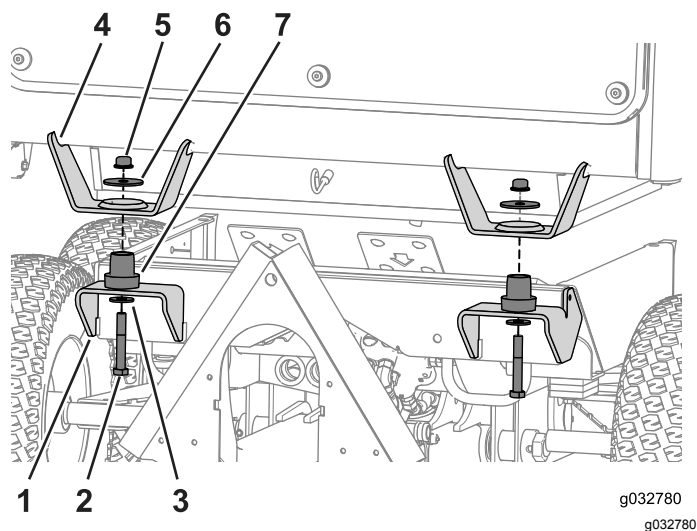

Figure 65
2. Lower the cab to the machine aligning the 2 bolt holes on the front mounts (Figure 65).
3. Insert a rubber isolator at each of the mounting locations (Figure 65).
4. Use the bolt (1/2 x 3-1/4 inches), large washer and flange nut to mount cab to the machine (Figure 65).